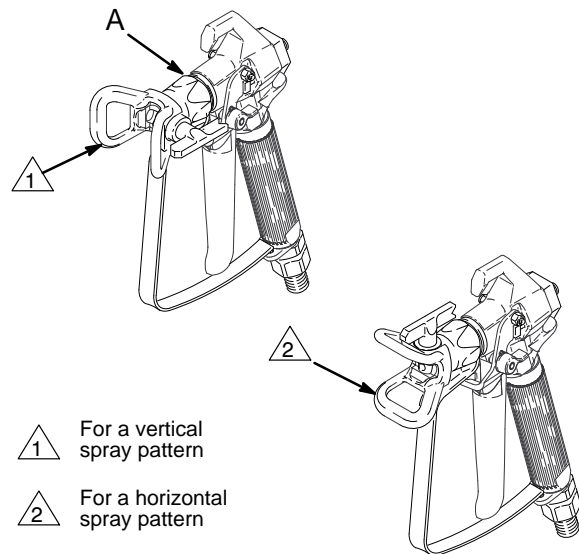

Fig. 9
The tip guard alerts you to the risk and helps prevent placing any part of the body close to the spray tip. The tip guard also adjusts the vertical or horizontal spray pattern. See Fig. 9. The tip guard holds a reversing spray tip. The tip is in the spraying position when the tip handle points forward. See Fig. 7.
- c. Adjust the direction of the spray pattern. See Fig. 9. Engage the gun safety latch. Loosen the retaining nut (A). Position the tip guard for a horizontal or vertical pattern. Hold the tip guard in place and tighten the retaining nut.